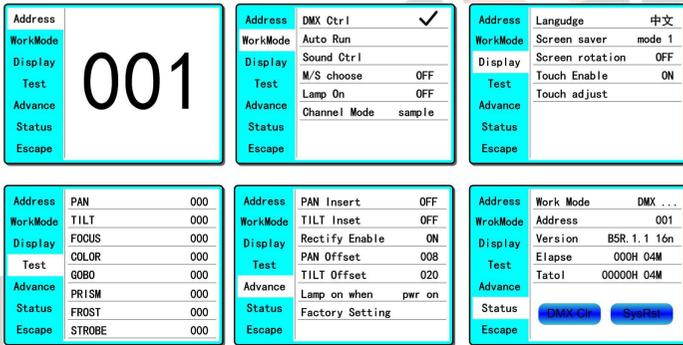

Figure 6 Parameter menu
- Chick item of main menu, enter corresponding sub menu, shown in Figure 6, total 6 sub menu, includes class of parameter and status:
Via following operation, enter sub menu(parameter menu) shown in Figure 6